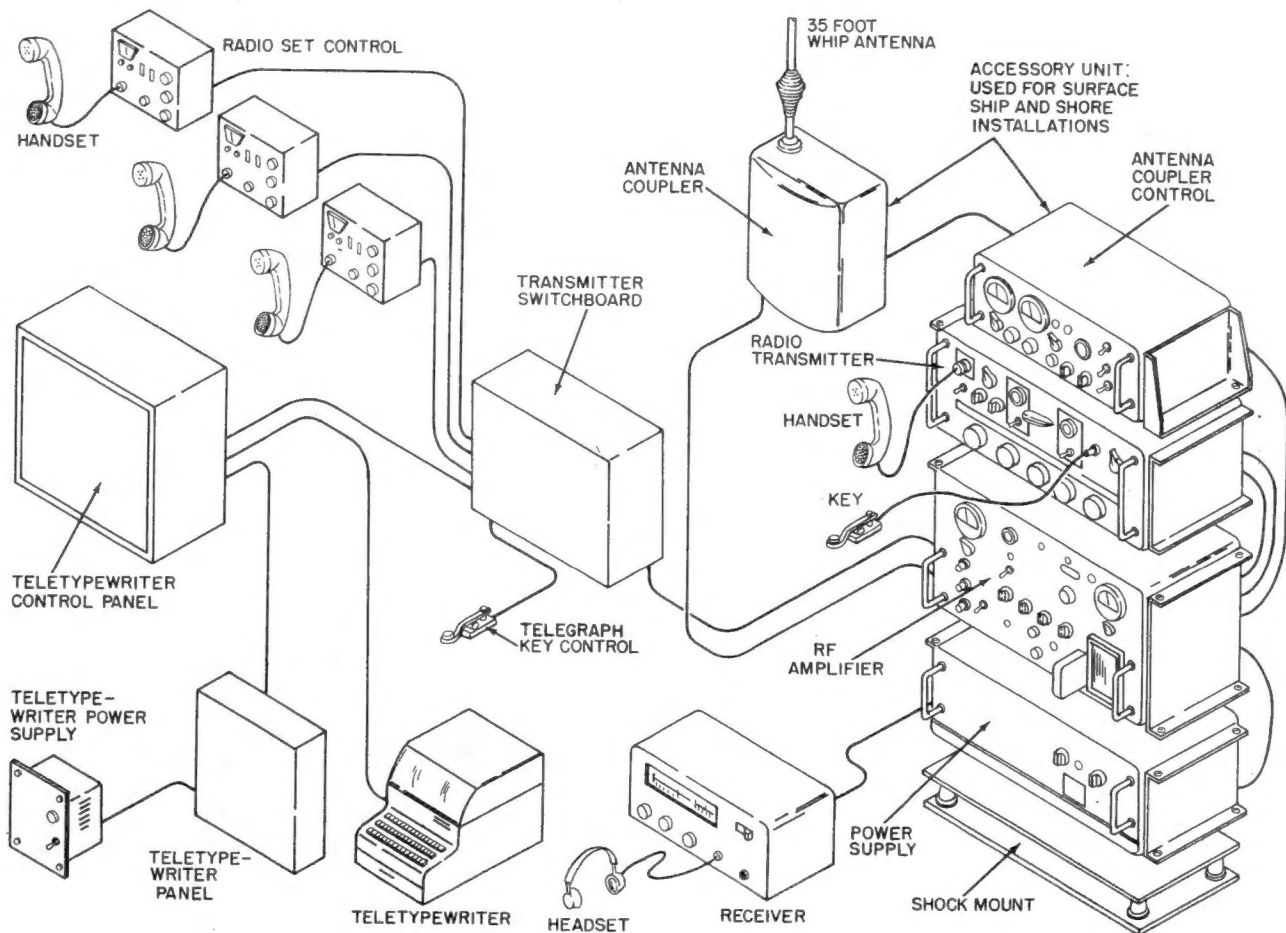

Figure 3-7.—A complete communications system for Radio Transmitter AN/URT-23(V).
The major units of the AN/URT-23(V) may be stack or rack mounted for installation aboard ship or for shore installations to form a complete communications system as illustrated in figure 3-7.